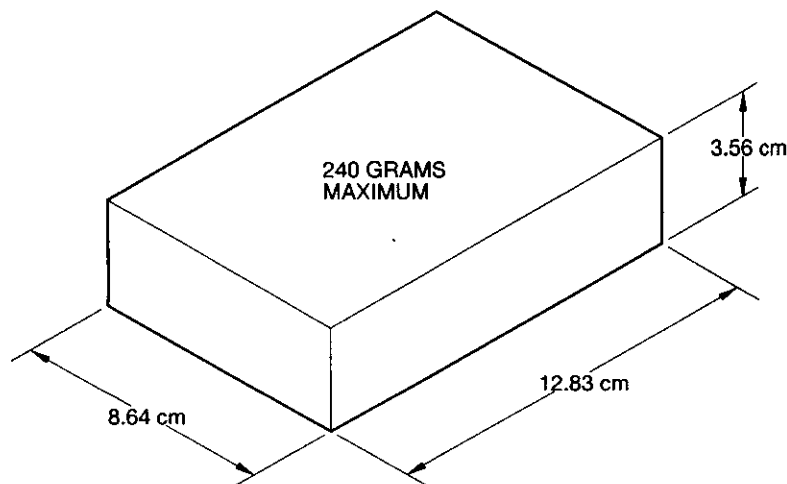

Figure 2. Rotor Compartment Envelope
**NOTE** The microplate carriers have been designed for the rotor compartment envelope given in figure 2. The maximum weight for this rotor compartment envelope, without the neoprene pad, is 240 grams.